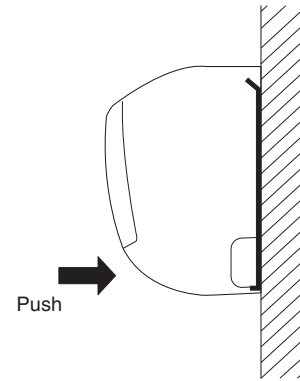

Fig. 1-165
- (1) To install the indoor unit, mount the indoor unit onto the 3 tabs on the upper part of the rear plate.
- (2) Hold down the air discharge outlet and press the lower part of the indoor unit until it clicks to securely fasten to the 2 tabs on the lower part of the rear plate. (Fig. 1-165)